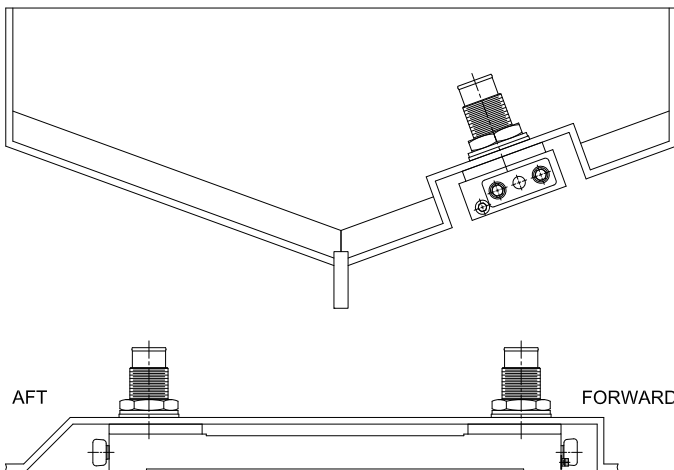

FIG.2 Recess type installation with E1 OPTION end-mounted anodes.
1.7.3 High speed applications and others that use E1 OPTION™ coolers should take into consideration the removal and replacement of anodes and drain plugs when sizing the length of a recess. See Figure 2.